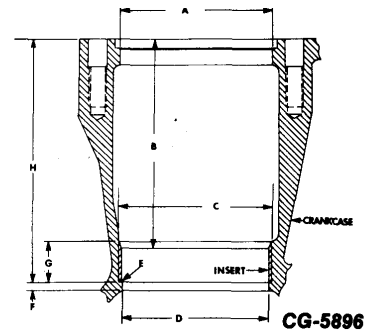

Figure 15. - Crankcase Rework Illustration for Lower Cylinder Sleeve Insert. (400 Series Only)
- a. Rework the crankcase as shown in Fig. 15. Adhere to specified dimensions.